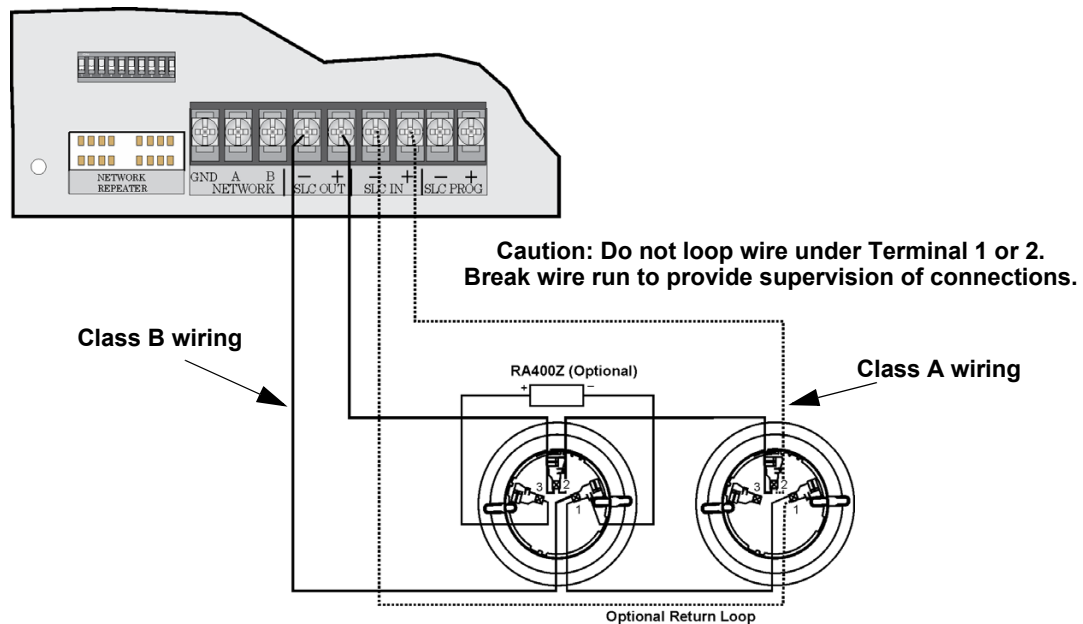

Figure 7-4 Heat and Smoke Detector Connection to the Panel.
1. Wire device bases as shown in Figure 7-4.